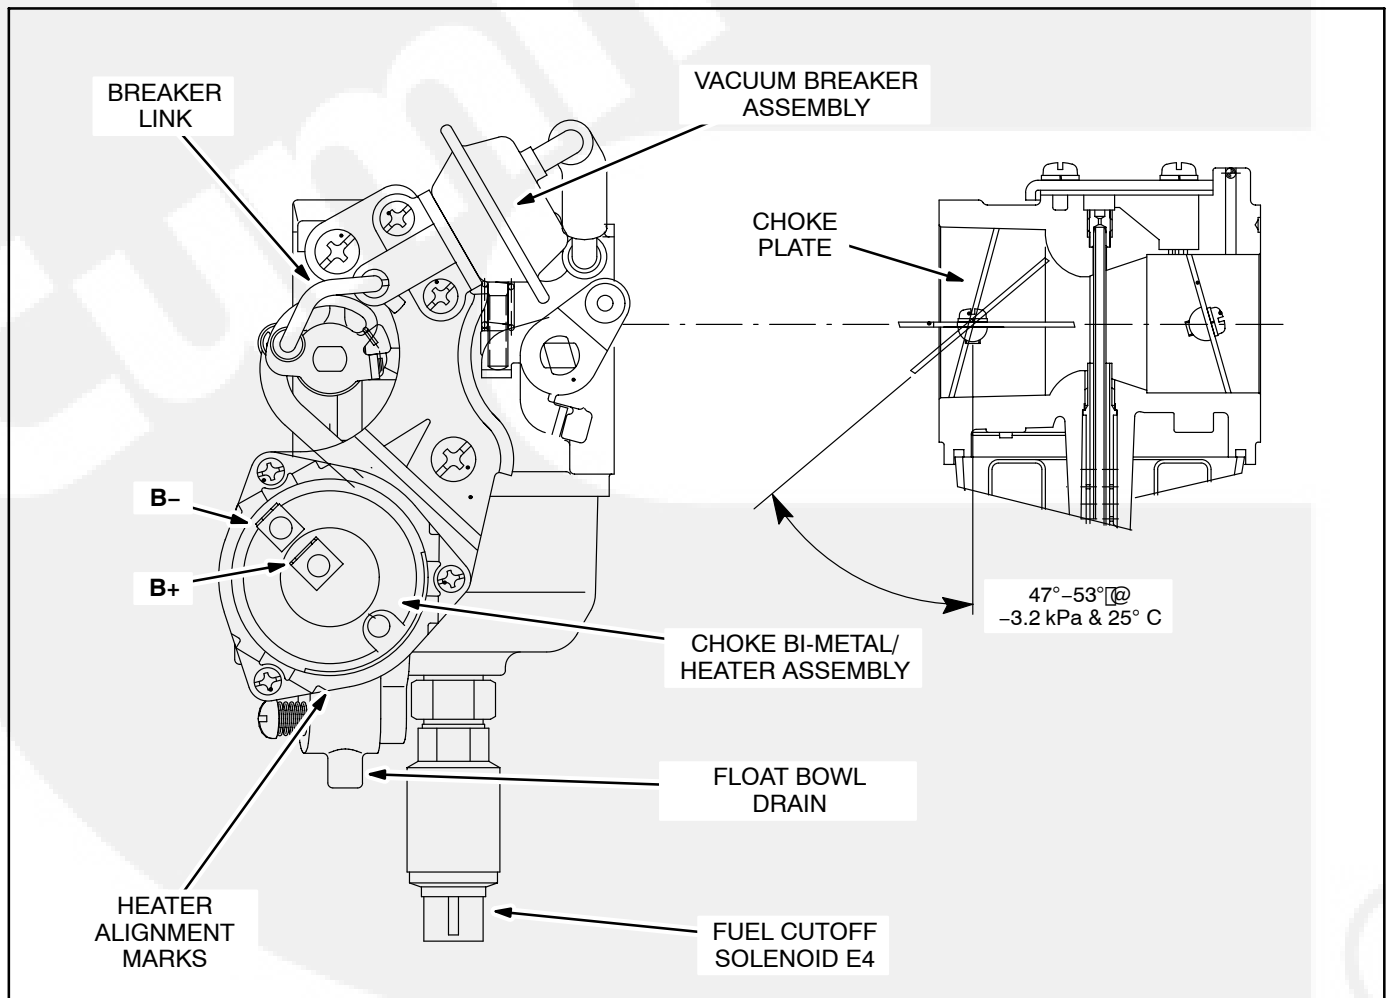

FIGURE 8-10. CARBURETOR / CHOKE ASSEMBLY
3. Disconnect the leads to the choke heater and fuel cutoff valve (Figure 8-10).
The carburetor (Figure 8-10) is not likely to cause problems and should be replaced only after all other problems have been eliminated (see Section 11. *Troubleshooting*). The carburetor fuel mixture adjustments are sealed at the factory. See Page 8-21 to connect the throttle link and to adjust the idle (throttle) stop screw.
The automatic choke is operated by a bi-metal/heat-er assembly and a vacuum breaker assembly (Figure 8-10). Conduct the following checks and adjustments before replacing a carburetor/choke assembly:
3. The vacuum breaker diaphragm must not leak under a vacuum of 30 inches Hg (100 kPa). It should not take a vacuum greater than 2.4 inches Hg (8 kPa) to open the choke fully. At a vacuum of 1 inch Hg (3.2 kPa) the choke plate should be at the angle shown (Figure 8-10). If necessary, bend the link at the point shown, using two pliers.
The fuel cutoff solenoid is threaded into the bottom of the carburetor float bowl (Figure 8-10). If the engine does not start because it is not getting fuel, but fuel can be drained from the carburetor float bowl, the solenoid probably is not opening and should be replaced. To remove and replace the cutoff solenoid: